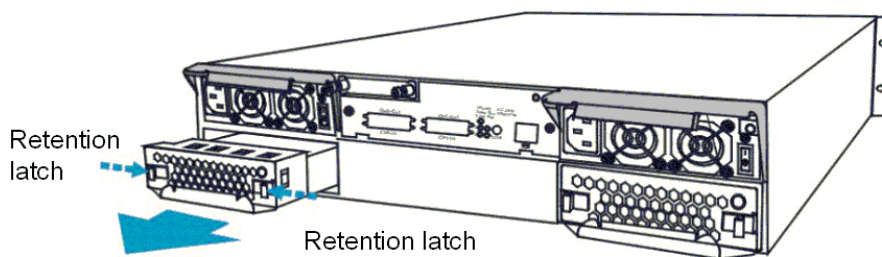

Fig. 6.6 Removing the Cooling Fan Module
1. To remove the cooling fan module: Squeeze both side latches towards the center of the cooling fan module and gently withdraw the cooling fan module from the subsystem by gently pulling on the silver handle at the bottom. (See *Figure 6.6*).